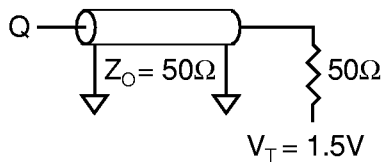
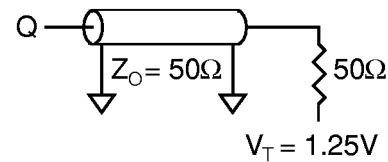

Figure 1
Figure 3
- Test conditions as specified with the output loading as shown in Figure 1 for 3.3V I/O ($V_{DDQ} = +3.3\text{V} +0.3\text{V}/-0.165\text{V}$) and Figure 3 for 2.5V I/O ($V_{DDQ} = +2.5\text{V} +0.4\text{V}/-0.125\text{V}$) unless otherwise noted.
Output load	See Figures 1 and 2
Output load	See Figures 3 and 4